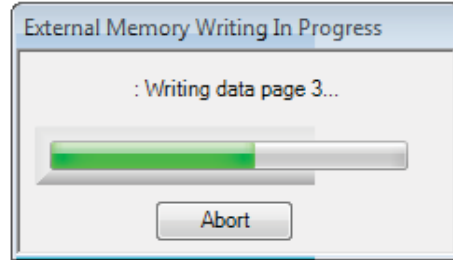

Figure 66. External Memory Write Operation Status Window
9. SigmaStudio begins the EEPROM write operation. This may take several minutes to complete (see Figure 66). When the status window disappears, the operation is complete.